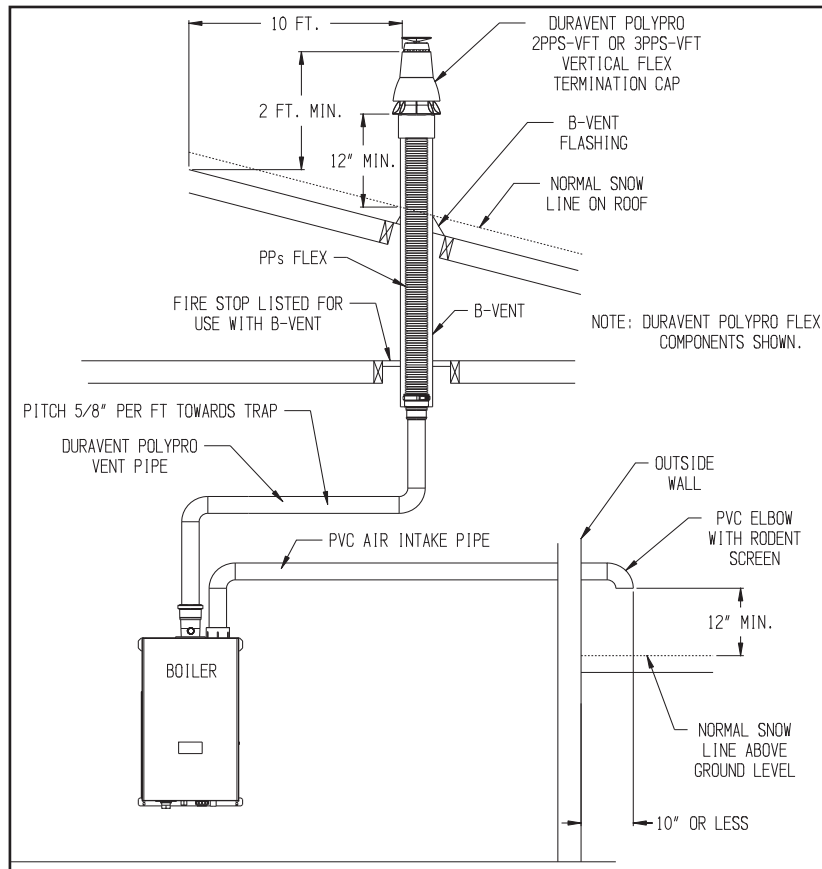

Figure 7.23: Split Vent System (Flex in B-Vent Chase) Vent Options 33-38)
4. Use of abandoned chimneys as a vent chase (Options 33-38) – Vent options 33-38 permit flexible PolyPropylene venting to be routed to the roof using an abandoned masonry or B- vent chimney. In these applications combustion air is drawn horizontally from a wall terminal. See Figure 7.23 or 7.24. When using one of these vent options, observe the following requirements:
Example: A 110MBH model is to be installed as using Vent Option 34 in a masonry chimney as shown in Figure 7.23. The following components are used: